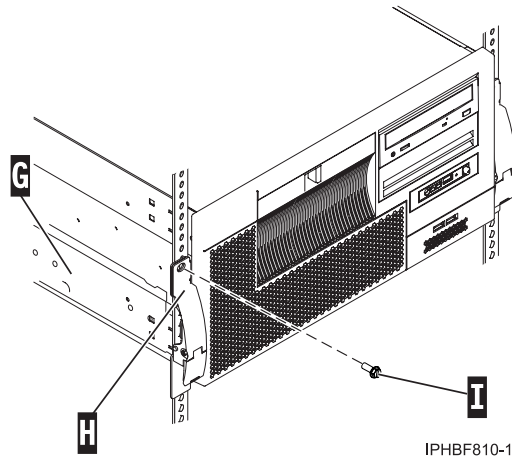

Figure 147. Transport retaining screws.
16. When transporting the rack, fasten the system drawer to the rack enclosure by inserting the transport retaining screw **I** through the bezel and latch bracket **H**, and screwing it to the rack and second optional screw **G** that prevents the rail from sliding as shown in Figure 147 on page 143.